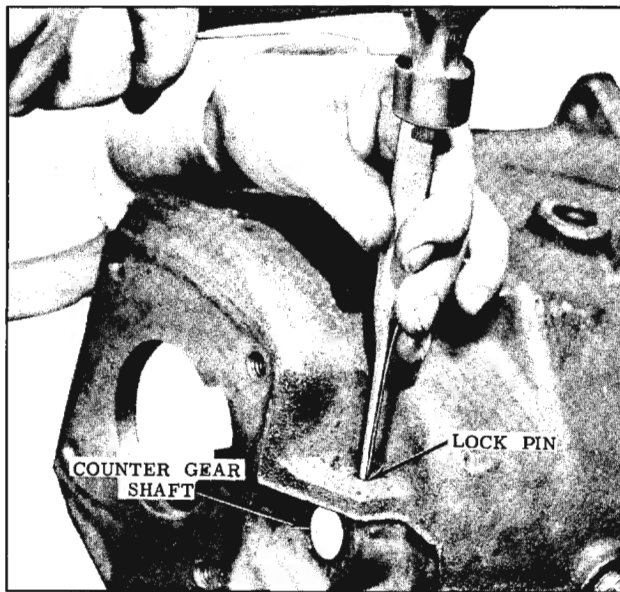

Fig. 11-16 Driving Lock Pin Into Shaft
- 18. Drive the counter gear shaft lock pin into the shaft. (Fig. 11-16)